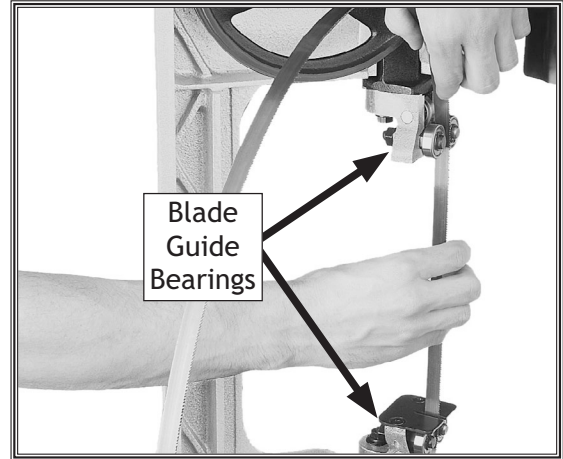

Figure 43. Installing the blade.
4. Install the new blade through both blade guide bearings, as shown in **Figure 43**, and around the bottom wheel.